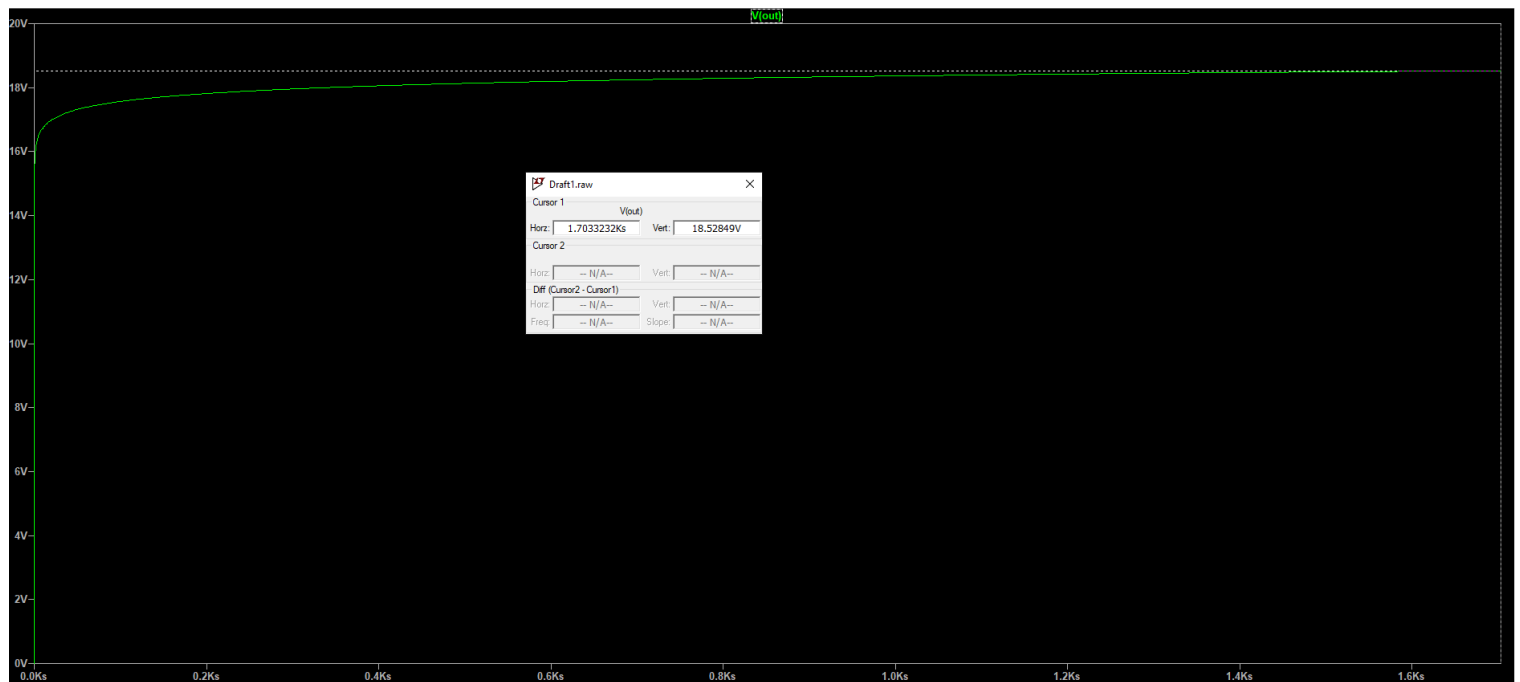

Figure 23: More Waited For Output
- As the figure 23 shows us more we wait, more voltage at the output occurs (Pay attention to the time scale). In other words, as the time converges to the infinity, the voltage at the output converges to the 20 volts (But do not forget the loss on the diodes).